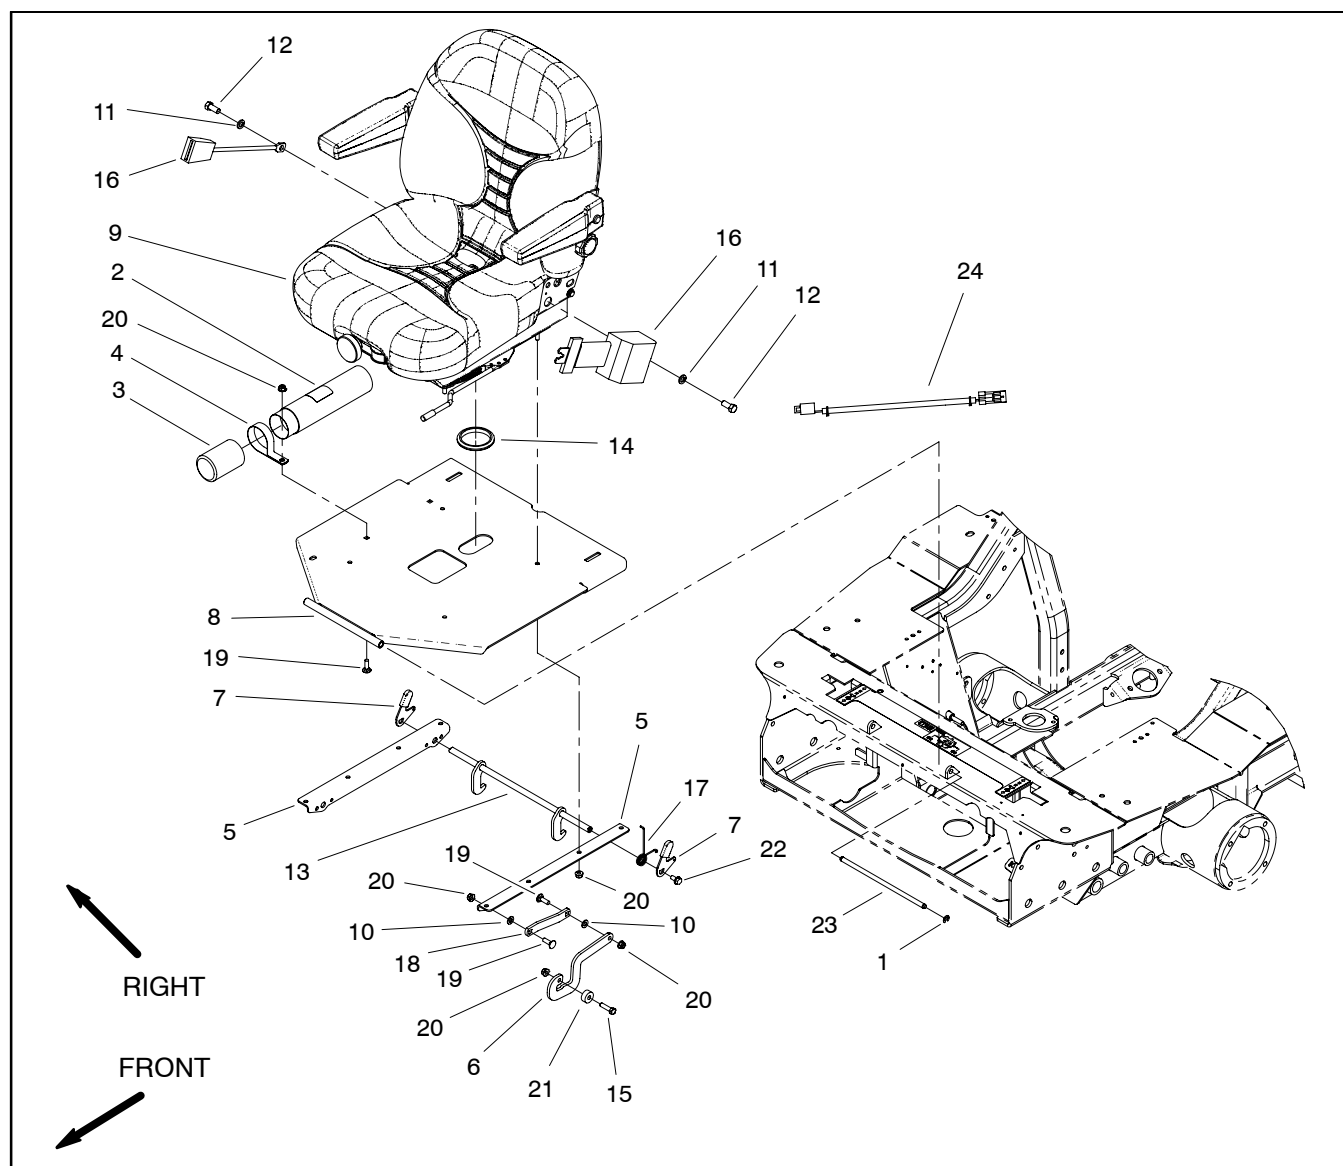
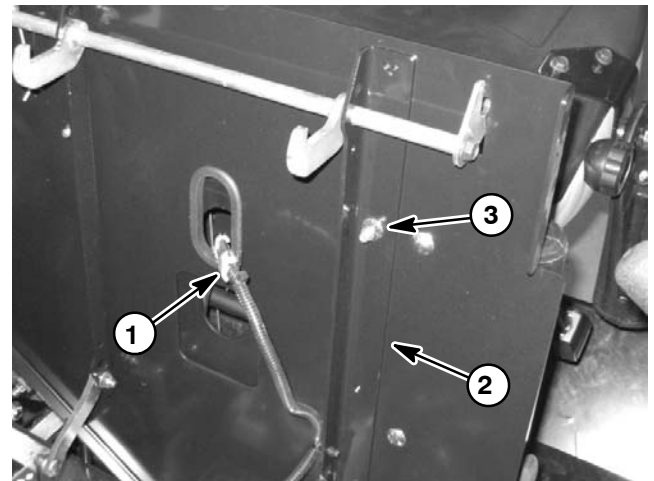

Figure 27
Figure 28
Removal (Fig. 27)
3. Disconnect machine wire harness electrical connector from the seat switch harness connector (Fig. 28).
5. Remove four (4) flange nuts that secure seat and latch angles to seat plate. Remove seat from machine.
6. Remove seat parts as necessary using Figure 27 as a guide.
Installation (Fig. 27)
1. Install all removed seat parts using Figure 27 as a guide.
2. Position seat and latch angles to seat plate. Secure assembly with four (4) flange nuts.
3. Connect wire harness electrical connector to the seat switch harness (Fig. 28).